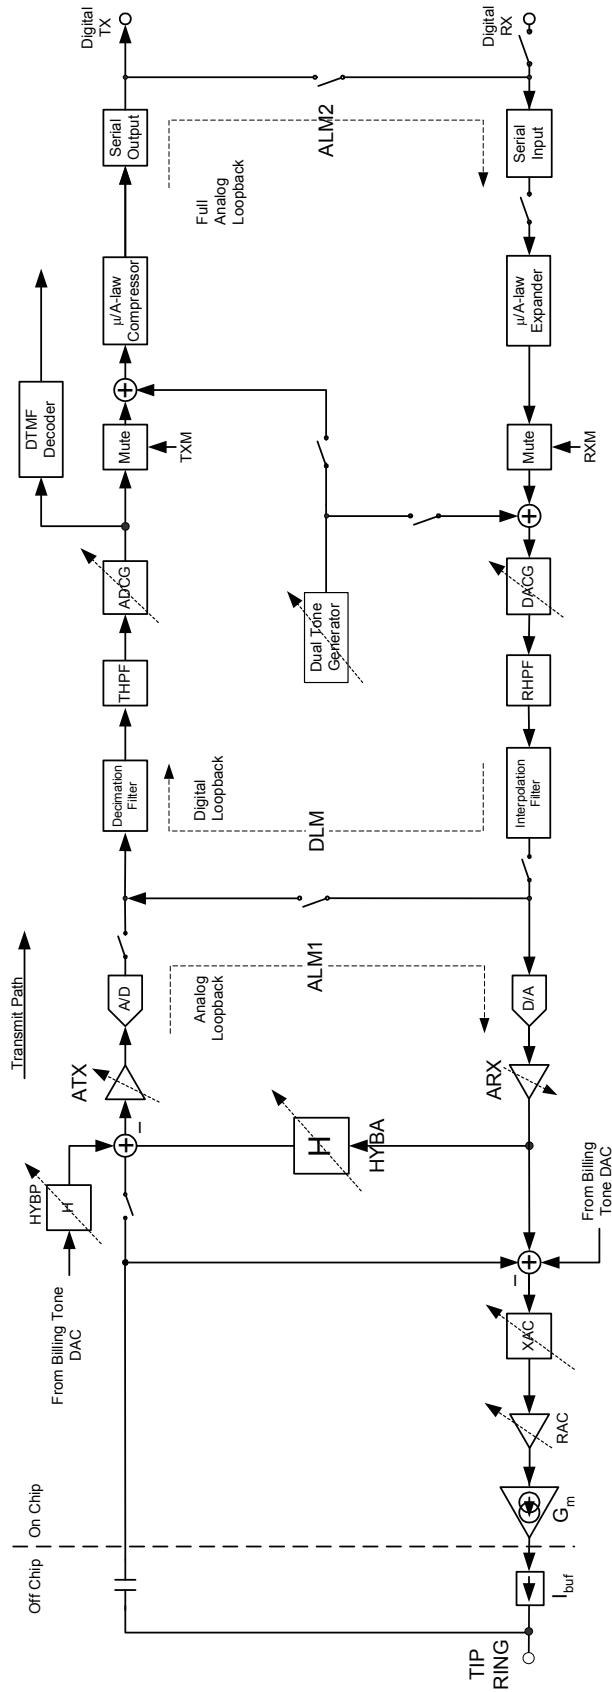

Figure 25. AC Signal Path Block Diagram
Unlike traditional SLICs, the codec function is integrated into the ProSLIC. The 16-bit codec offers programmable gain/attenuation blocks and several loopback modes. The signal path block diagram is shown in Figure 25.
The block diagram for the voice-band signal processing paths is shown in Figure 25. Both the receive and transmit paths employ the optimal combination of analog and digital signal processing to provide maximum performance while offering sufficient flexibility to allow users to optimize for their particular ProSLIC application. All programmable signal-processing blocks are indicated symbolically in Figure 25 by a dashed arrow across them. The two-wire (TIP/RING) voice-band interface to the ProSLIC is implemented using a small number of external components. The receive path interface consists of a unity-gain current buffer, I_{BUF} , while the transmit path interface is simply an ac coupling capacitor. Signal paths, although implemented differentially, are shown as single-ended for simplicity.
The ProSLIC provides programmable transhybrid balance with gain block H. (See Figure 25.) In the ideal case, where the synthesized SLIC impedance exactly matches the subscriber loop impedance, the transhybrid balance should be set to subtract a -6 dB level from the transmit path signal. The transhybrid balance gain can be adjusted from -2.77 dB to +4.08 dB around the ideal setting of -6 dB by programming the HYBA[2:0] bits of the Hybrid Control register (direct Register 11). Note that adjusting any of the analog or digital gain blocks will not require any modification of the transhybrid balance gain block, as the transhybrid gain is subtracted from the transmit path signal prior to any gain adjustment stages. If desired, the transhybrid balance can also be disabled using the appropriate register setting.
- The full analog loopback (ALM2) tests almost all the circuitry of both the transmit and receive paths. The compressed 8-bit word transmit data stream is fed back serially to the input of the receive path expander. (See Figure 25.) The signal path starts with the analog signal at the input of the transmit
- An additional analog loopback (ALM1) takes the digital stream at the output of the A/D converter and feeds it back to the D/A converter. (See Figure 25.) The signal path starts with the analog signal at the input of the transmit path and ends with an analog signal at the output of the receive path. This loopback option allows testing of the analog signal processing circuitry of the Si3210 to be carried out completely independently of any activity in the DSP.
- The full digital loopback tests almost all the circuitry of both the transmit and receive paths. The analog signal at the output of the receive path are fed back to the input of the transmit path by way of the hybrid filter path. (See Figure 25.) The signal path starts with 8-bit PCM data input to the receive path and ends with 8-bit PCM data at the output of the transmit path. The user can bypass the companding process and interface directly to the 16-bit data.
Real and complex two-wire impedances are realized by internal feedback of a programmable amplifier (RAC), a switched capacitor network (XAC), and a transconductance amplifier (G_m). (See Figure 25.) RAC creates the real portion, and XAC creates the imaginary portion of G_m 's input. G_m then creates a current that models the desired impedance value to the subscriber loop. The differential ac current is fed to the subscriber loop via the ITIPP and IRINGP pins through an off-chip current buffer, I_{BUF} , which is implemented using